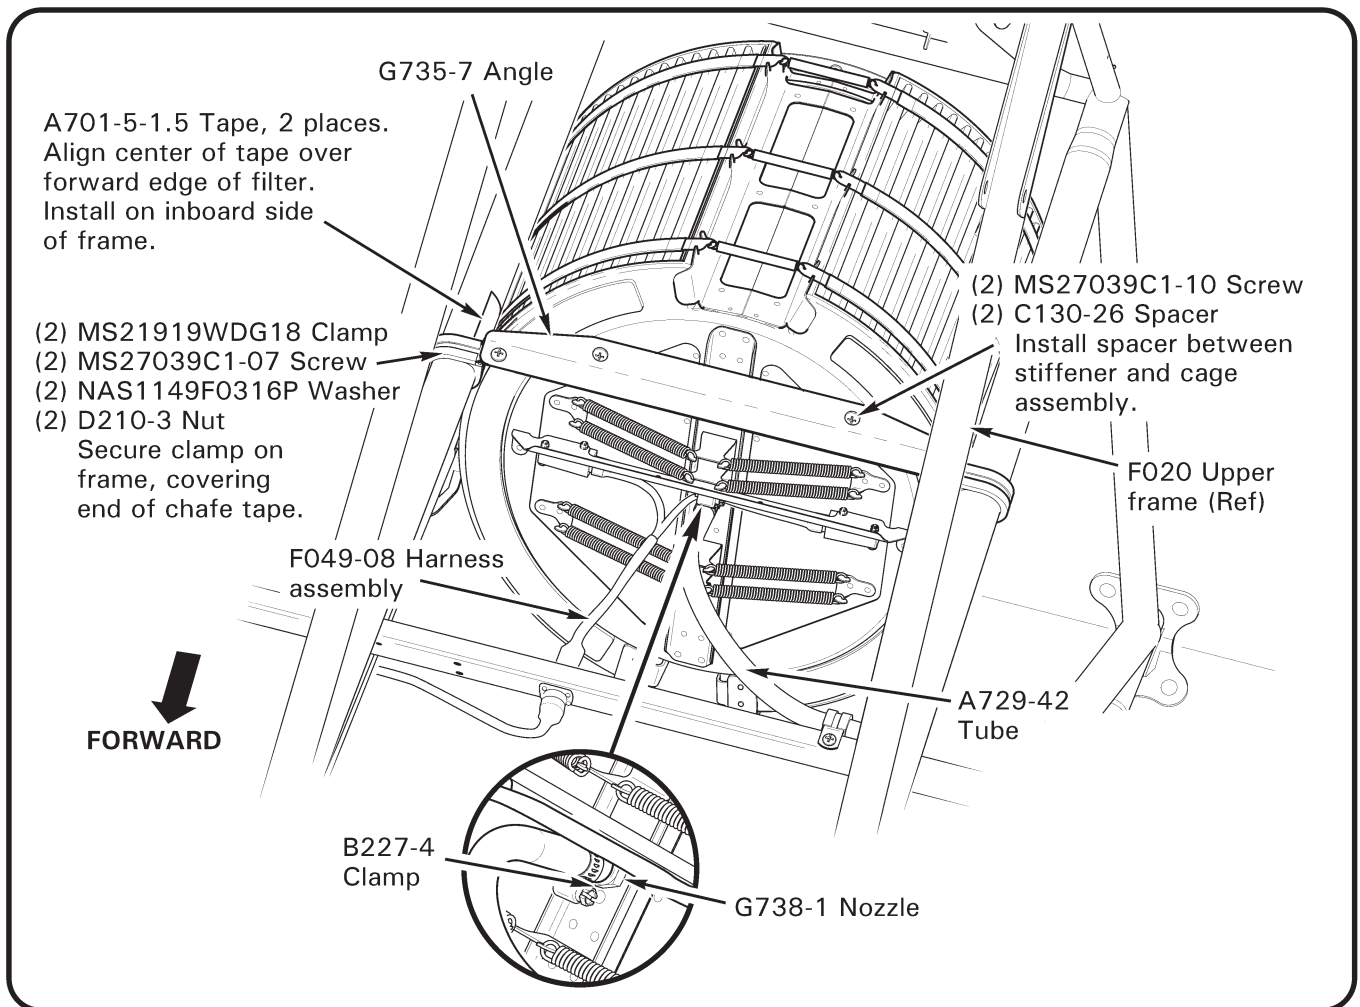

FIGURE 1
4. Refer to Figure 1. Transfer G738-1 nozzle from G057-1 cage to G058-3 cage assembly and special torque nozzle per MM § 20-33. Verify security.
9. Refer to Figure 1. Connect F049-08 (bypass switches) harness assembly to airframe connector; verify security.